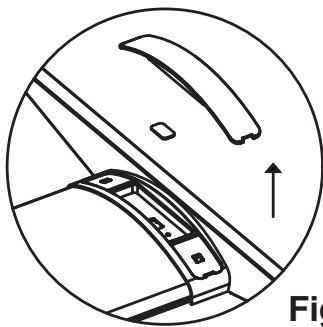

Fig. 2
1. Remove the sensor cover, silicone plugs from the USB-C receptacle and the screw hole (see Fig. 2).